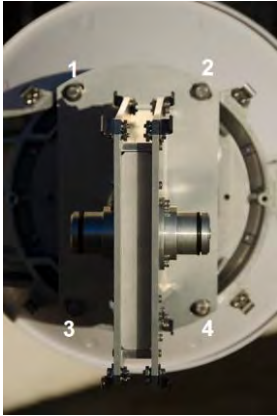

Figure 6-8: Dual Pole Adapter Fastening Bolts
11. This step is to be performed using cross polarized radios. Turn off either A-H & B-V or A-V & B-H. Using the remaining cross polarized radios, slightly loose the 4 fastening bolts that attach the Dual Pol Adapter to the antenna at either radio (see 1 to 4 in Figure 6-8). Rotate the dual pol adapter assembly to minimize the RSSI. Record the RSSI at both ends of the link.